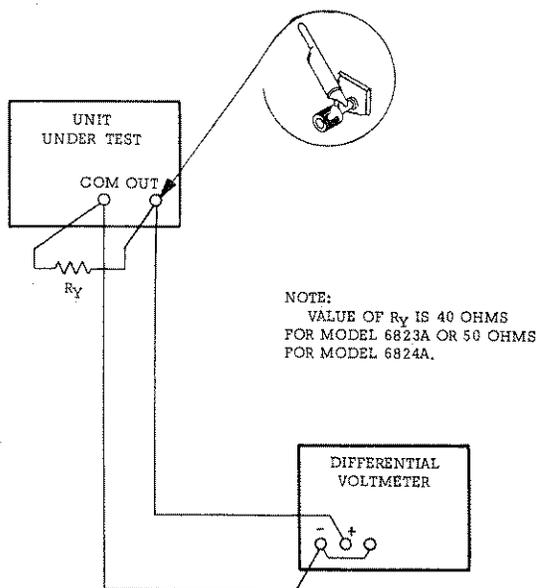

Figure 5-4. Load Regulation, Test Setup
- a. Connect test setup as shown in Figure 5-4.
b. Connect test setup shown in Figure 5-4.